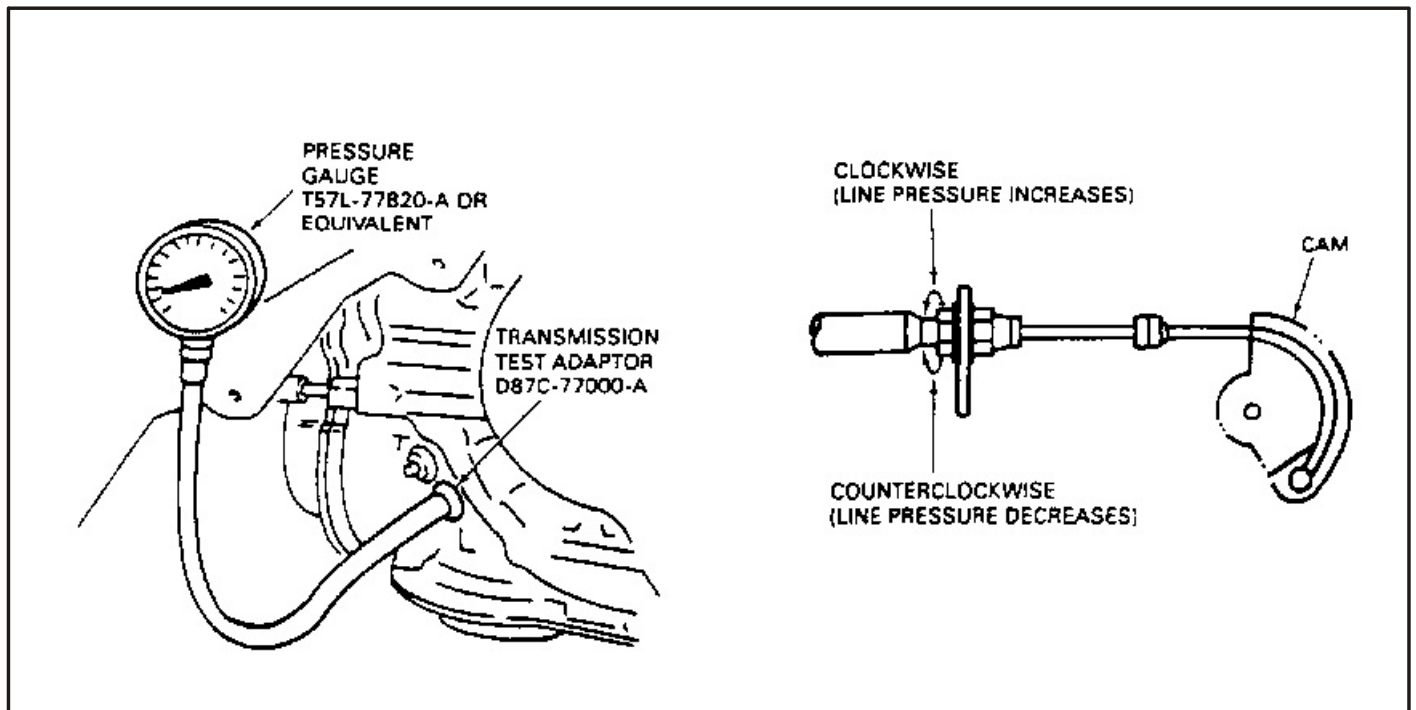

Figure 1
4. Remove the six (6) screws holding the splash shield to the inner wheel well.
6. Install transaxle test adaptor D87C-77000-A into the hole where the square head plug was removed and install pressure gauge T57L-77820-A on the transaxle test adaptor, Figure 1.